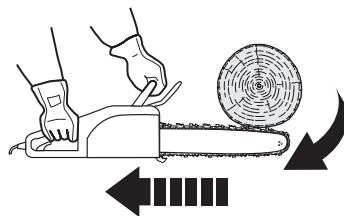

Fig. 27
2. Pinching the saw chain (11) along the top of the guide bar (12) may push the guide bar rapidly back toward the operator (Fig. 27).